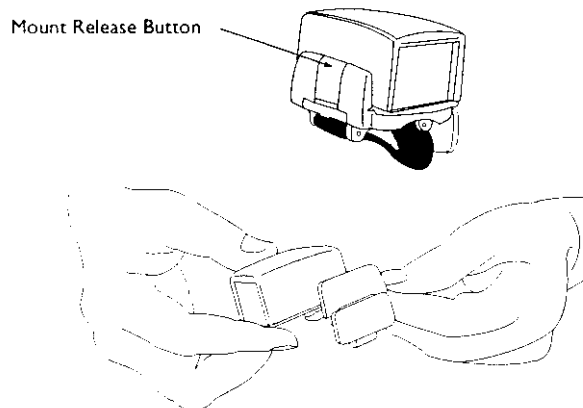

Figure 5-13. Removing the Ring Scanner from the Mount
2. Press the mount release button and gently pull/push the ring scanner out of the mount (Figure 5-13).